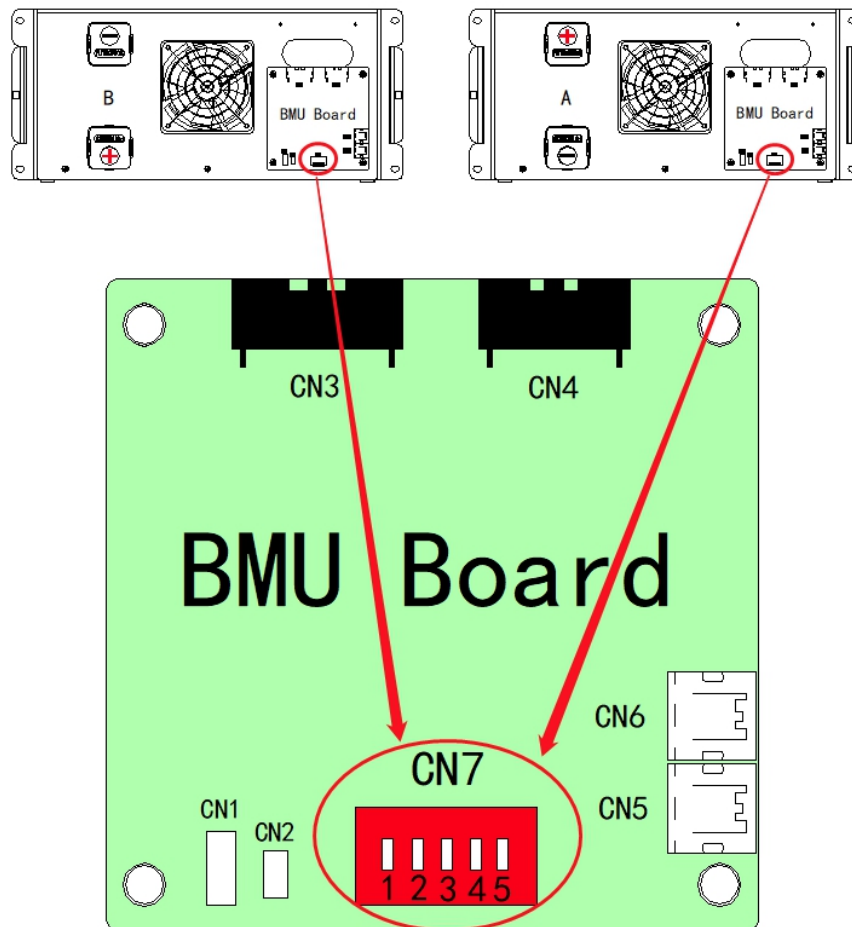

Figure 10 Battery pack address setting switch
- 4) **Setting the battery pack address:** As shown in the figure 10, a binary DIP switch CN7, from 1 to 5 indicates the high to low binary number. For example, only turn on the first switch, turn off switches 2 to 5, and set address 16.